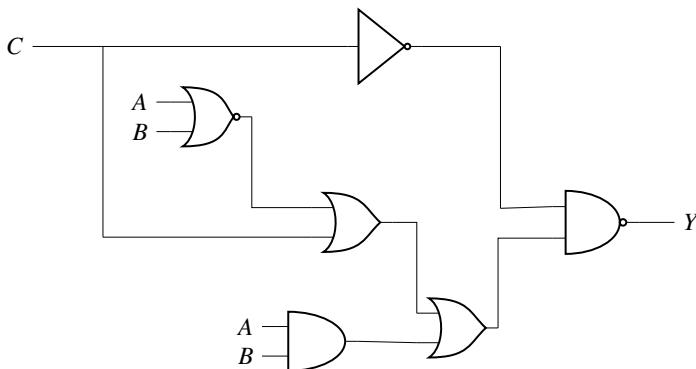

Fig. 3.38
56. In the circuit shown in Fig. 3.38, if $C = 0$, the expression for Y is